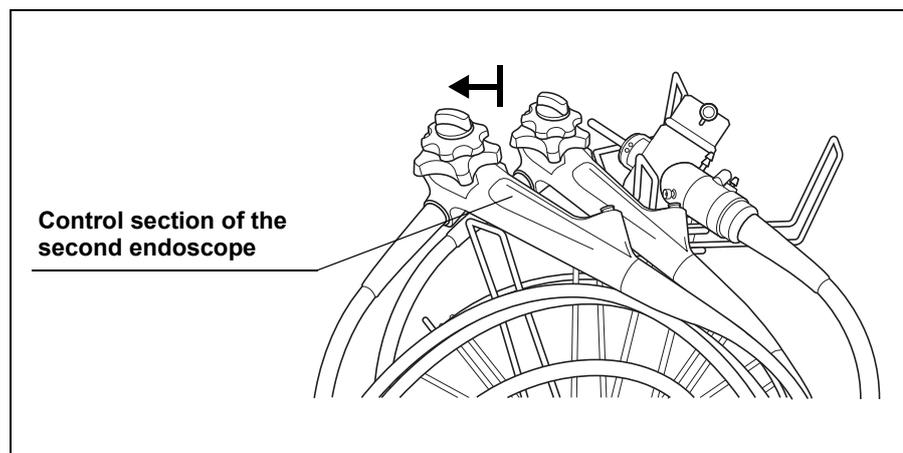

Figure 4.18
6. When placing a second endoscope, repeat Steps 1 to 4 above. The control section of the second endoscope should be placed to the left of the first endoscope as shown in Figure 4.18.